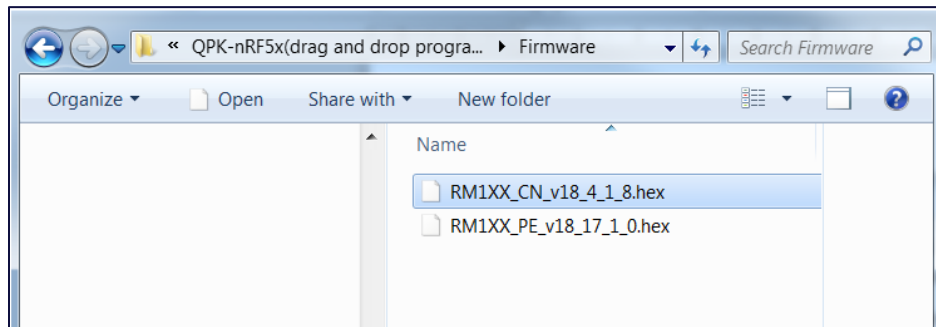

Figure 8: Download and extract the firmware on to your PC
- Download the firmware from Laird website and extract it to a local drive on your PC (Figure 8).